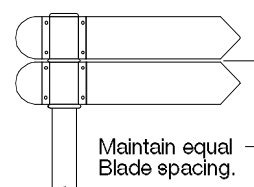

Fig. 7
7. Raise and secure each level of Blade Assemblies. When Decorative Rings are used to separate levels, it will be necessary to manually adjust the gap across the entire length of the Blade to maintain equal spacing. (Refer to Fig. 7)